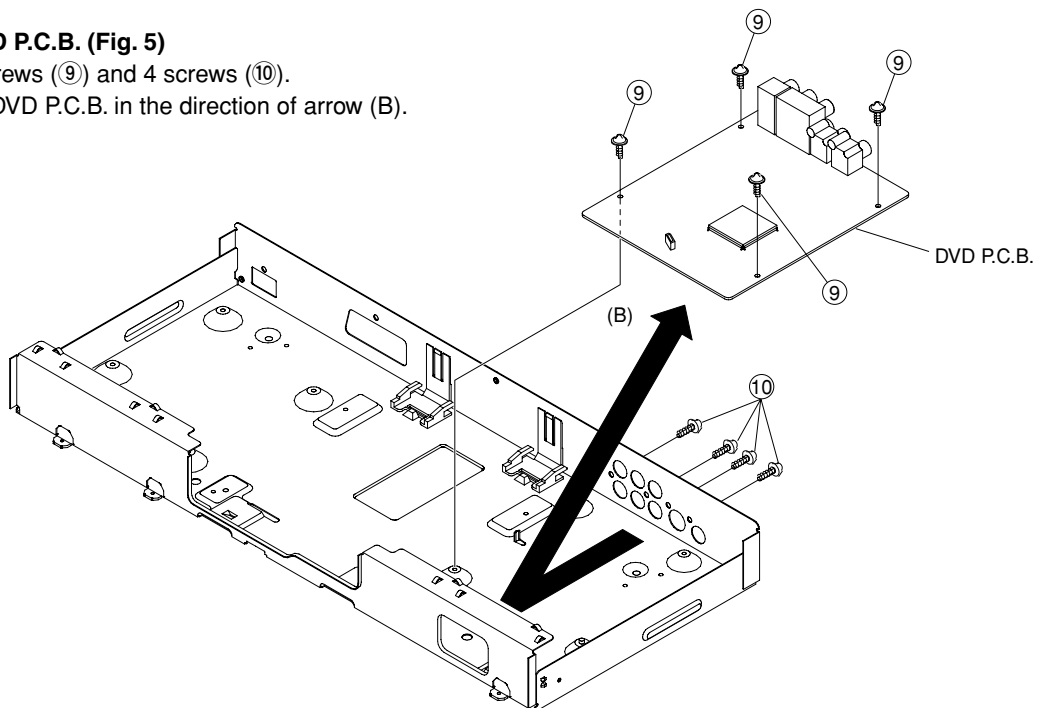

Fig. 5
6. Removal of DVD P.C.B. (Fig. 5)
- a. Remove 4 screws (9) and 4 screws (10).
- b. Remove the DVD P.C.B. in the direction of arrow (B).